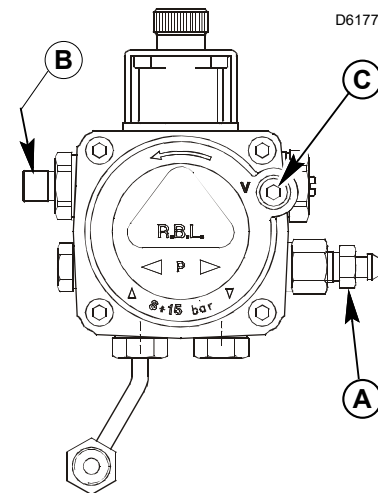

Fig. 16
To protect the pump gears, it is advisable to lubricate the pump prior to purging a lift system. Apply oil through the vacuum port C(Fig. 16).
- A Loosen the bleeder valve A(Fig. 16) until oil flows out. Tighten the bleeder valve securely and start burner.
- 1 Loosen the bleeder valve A(Fig. 16).
- 2 Disconnect nozzle oil supply line at the pump nozzle port B(Fig. 16).